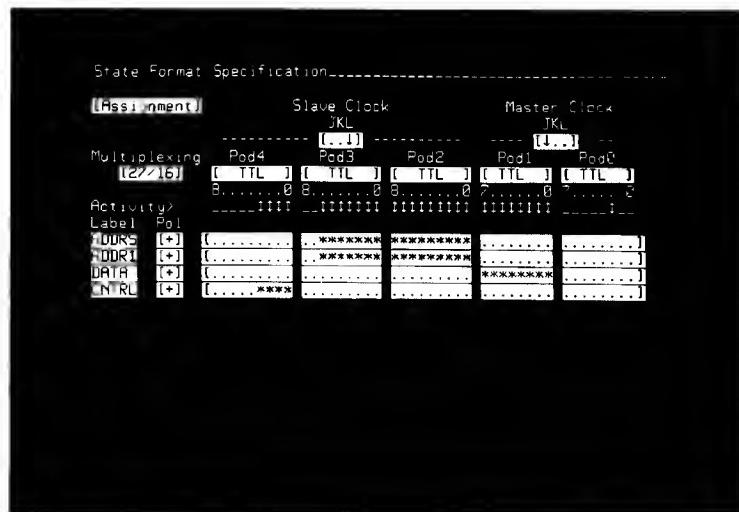

Figure 3-22. State Assignment Format Specification With Two Labels For The Address Bits
5. In the label line just created, type in ADDR1, and enter asterisks to activate each probe line that is active for the ADDRS label. This creates a label called ADDR1 that is identical to the ADDRS label. See figure 3-22.